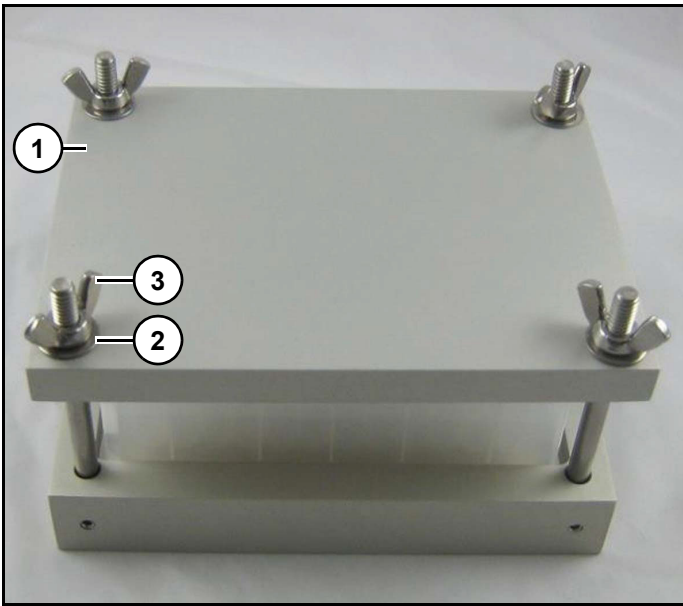

Figure 114
Refer to (Figure 114).
4. Place the silicone spacer mat (not shown) (Figure 114) on top of sealed well plate.
5. Place deprotection chuck top (1) on top of entire assembly.
6. Secure top plate with washers (2) and wing nuts (3).